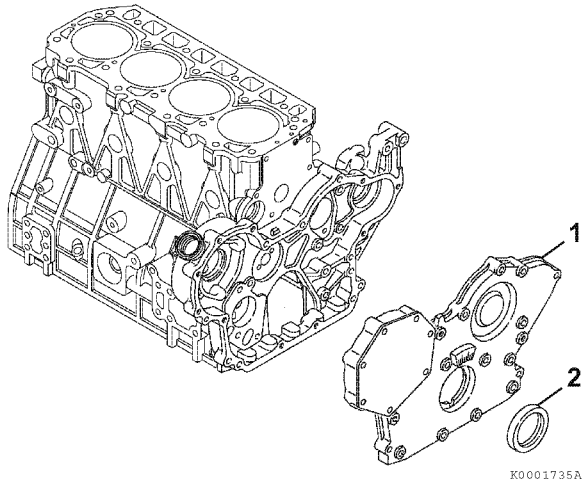

Figure 6-64
1. Remove the seal (**Figure 6-64, (2)**) from the cover (**Figure 6-64, (1)**).
2. Apply a continuous bead of ThreeBond Liquid Gasket No. 1207F, YANMAR Part No. 977770-1207F to the outside diameter of a new oil seal (**Figure 6-64, (2)**), and install in the gear case cover. Apply lithium grease to the lip of the seal.